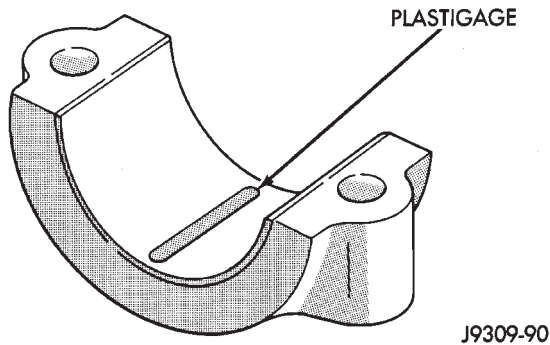

Fig. 1 Placement of Plastigage in Bearing Shell
(1) Place a piece of Plastigage across the entire width of the bearing cap shell (Fig. 1). Position the Plastigage approximately 6.35 mm (1/4 in.) off center and away from the oil holes. In addition, suspect
(1) Remove oil film from surface to be checked. Plastigage is soluble in oil.
(2) Place a piece of Plastigage across the entire width of the bearing cap shell (Fig. 1). Position the Plastigage approximately 6.35 mm (1/4 inch) off center and away from the oil holes. In addition, suspect